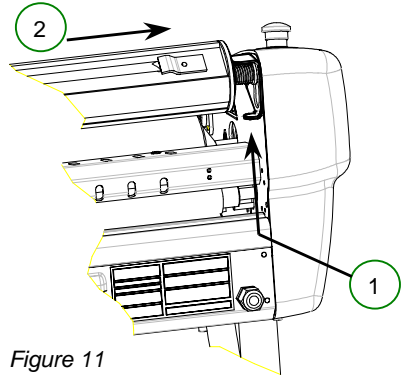

Figure 11
- Push the interlock bracket (see figure 11) upward with your finger before sliding the autogrip shaft further.